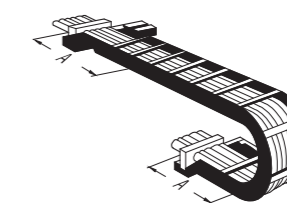

Fig. 1
- Fasten the cables on both ends of the chain (→ Fig. 1).